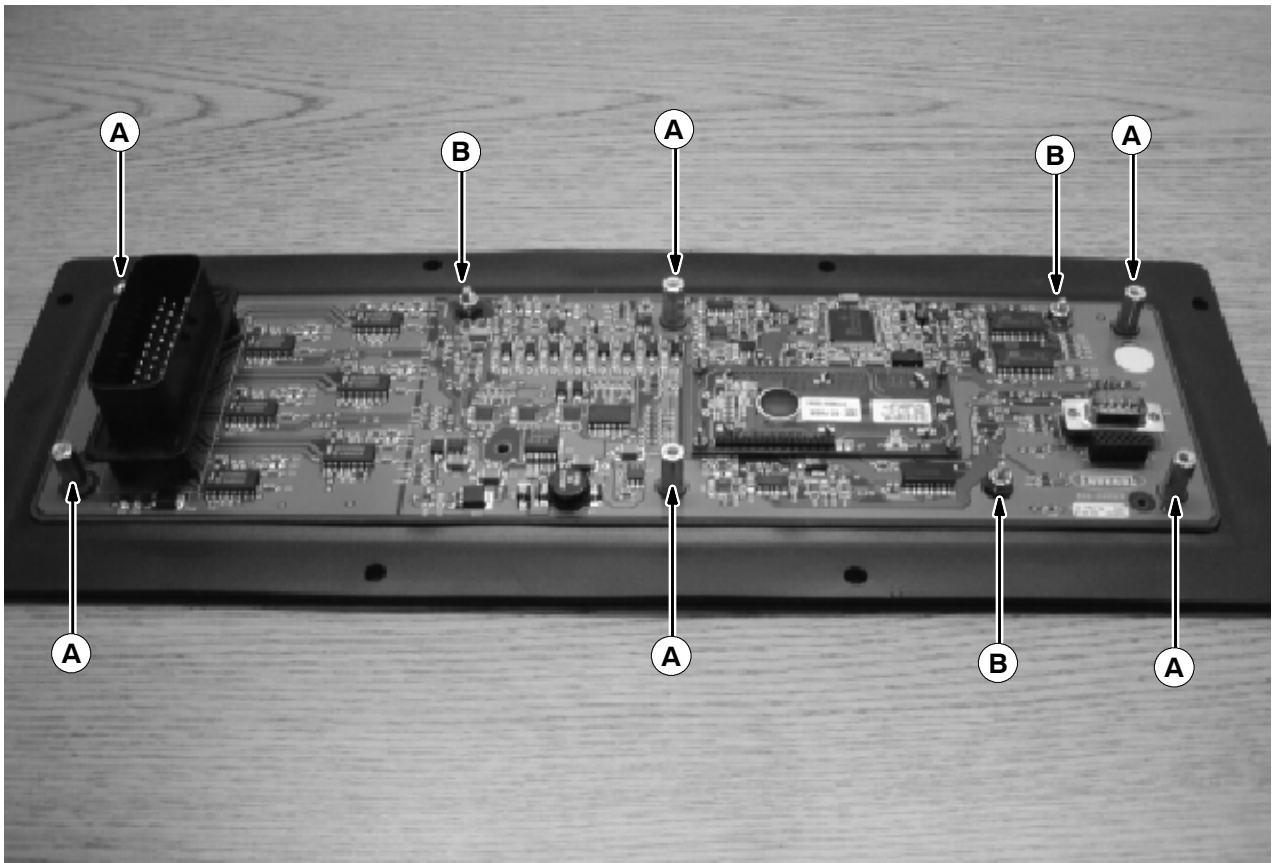

FIG. 2 - Overlay/Circuit Board Mounting Hardware
5. Remove and set aside six hex studs with nylon washers (A) and three nylon nuts (B) securing the circuit board to the overlay/faceplate. (Refer to FIG. 2)
7. Secure the new overlay/faceplate (1) into place, with the hex studs, nylon washers (A) and nylon nuts (B) removed in Step 5. (Refer to FIG. 2)